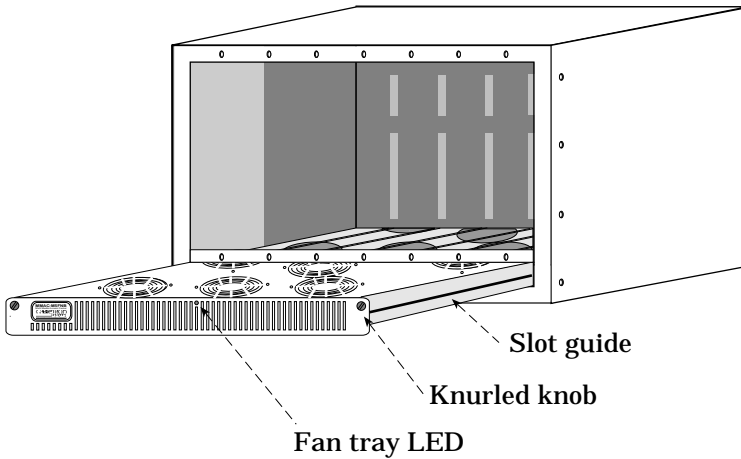

Figure 3-3. Inserting the Fan Tray
1. Hold the fan tray as shown in Figure 3-3 (following page) and align the slotted paths on the tray with the slot guides on the left and right walls of the MMAC-M5FNB chassis.